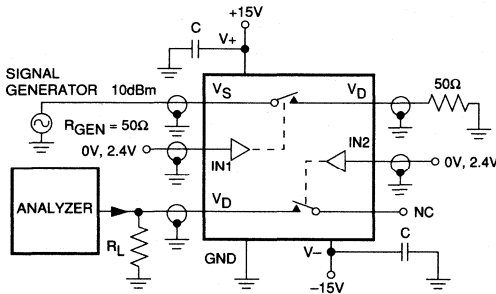

Figure 3. Crosstalk Test Circuit
**Note 4.** See Figure 3. Off Isolation = 20 log10 VD/VS, VD = output, VS = input to off switch.